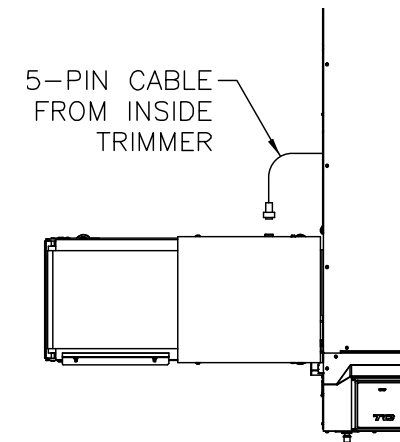

Figure 2-29. Power Cable Connection
3. Connect the power cable as shown in Figure 2-29.